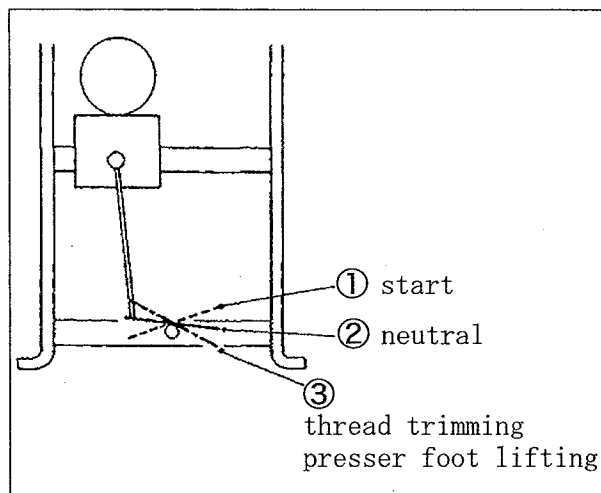

Fig. 1-1
- (1) Heel back the pedal to raise the presser foot.
- (2) Place the material under the presser foot and toe down the pedal. (Fig. 1-1 ①)
- (3) Release the pedal. (Fig. 1-1 ②)
- (4) Heel back the pedal. (Fig. 1-1 ③)
- (5) Release the pedal. (Fig. 1-1 ②)